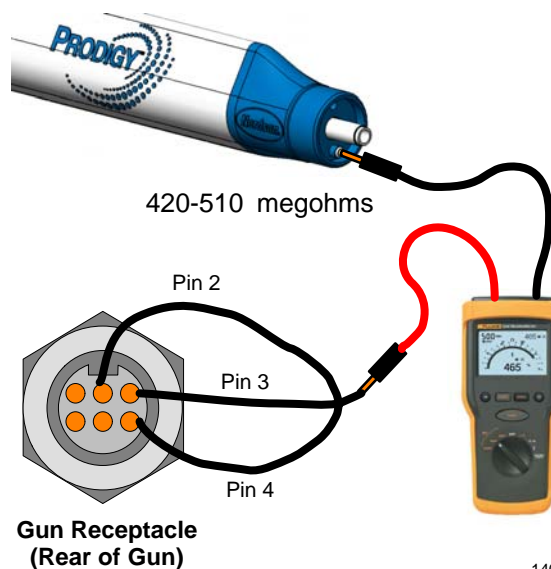

Figure 11 Multiplier/Resistor Test
1. See Figure 11. Remove the air cap assembly.